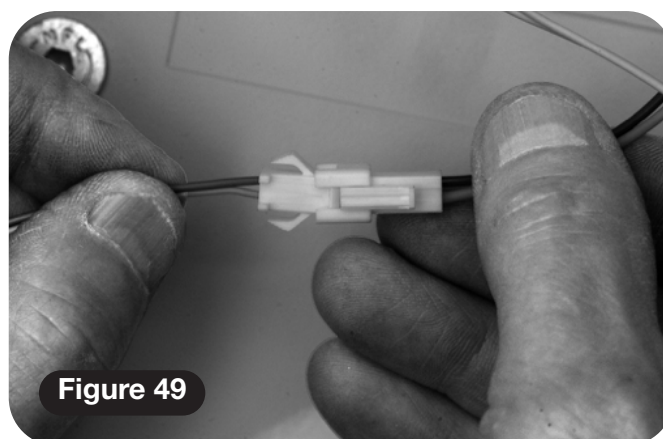

Figure 49
- 2 Make the upper seat wiring connections as follows **(Figure 49)**;